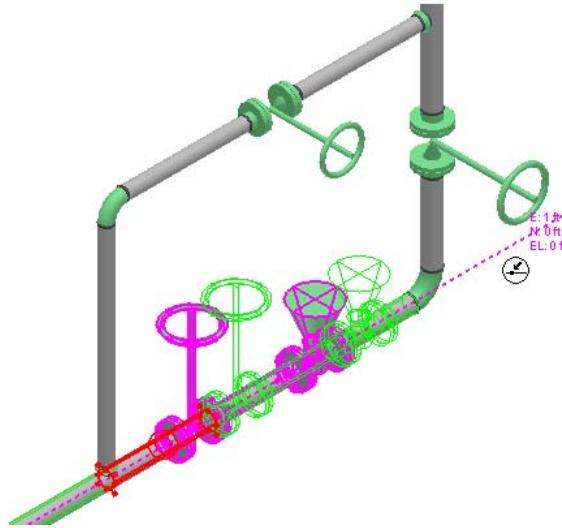

Figure 18: Move Constraint
5. On the **PinPoint** ribbon, key in **1ft** for easting E drop-down list. Move the cursor along the path and SP3D constraints your movement along the path, as shown in Figure 18.